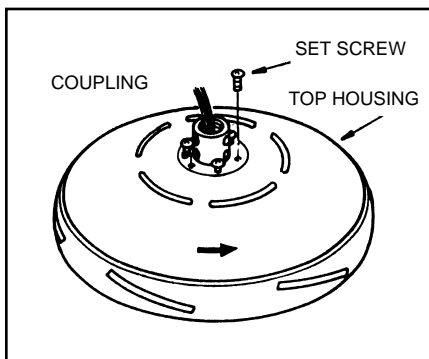

Fig.5
**Step 2.** Remove the 6 screws from top housing and lift cover off. (Fig 5)